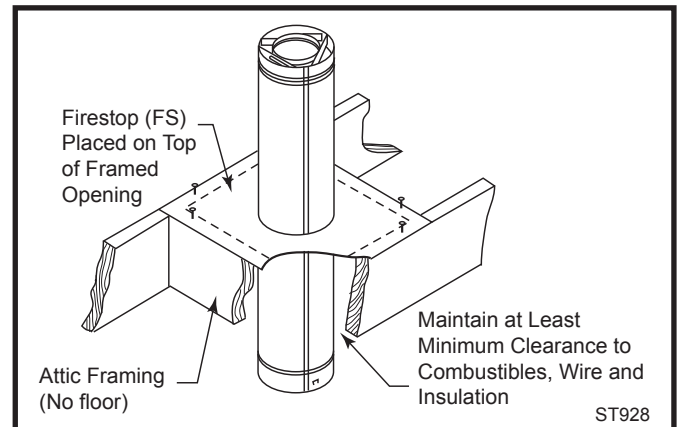

Fig. 39 Firestop spacer.
DIRECT-TEMP must be firestopped wherever it passes through floors, ceiling or walls. The only location where a firestop is not required is at the roof level. Both vertical support components with trim plates provide for firestopping. The wall thimble also acts as a firestop. At other locations, a firestop spacer (FS) should be installed. In the attic the firestop should be placed on top of the joist framing to prevent debris from falling into the joist framing. (Fig. 39)